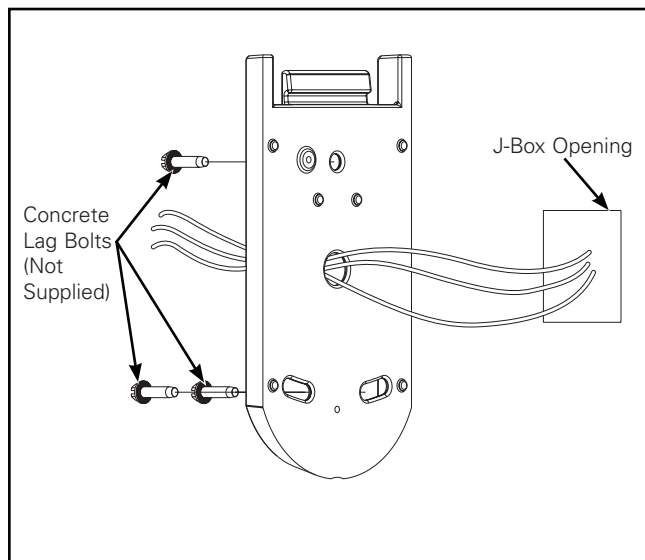

Figure 2.
3. Pull supply side ground, neutral, and line voltage from J-box thru wall plate. (Figure 2.)